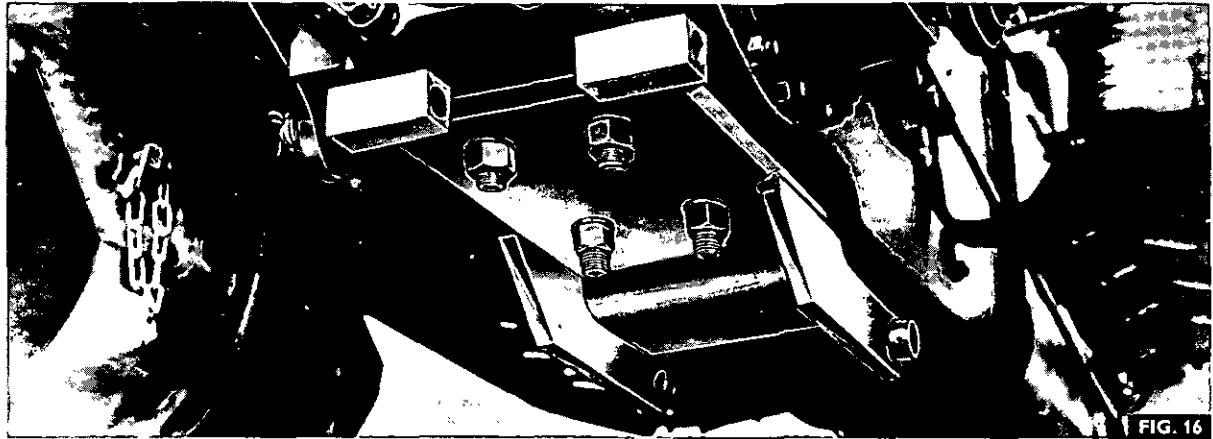

FIG. 16
4. Fig 16. Locate the mounting bracket (44) on the four studs, then secure it with the four nuts (54) and spring washers (55). Tighten the nuts to 27,5 kg-m (200 lb-ft).